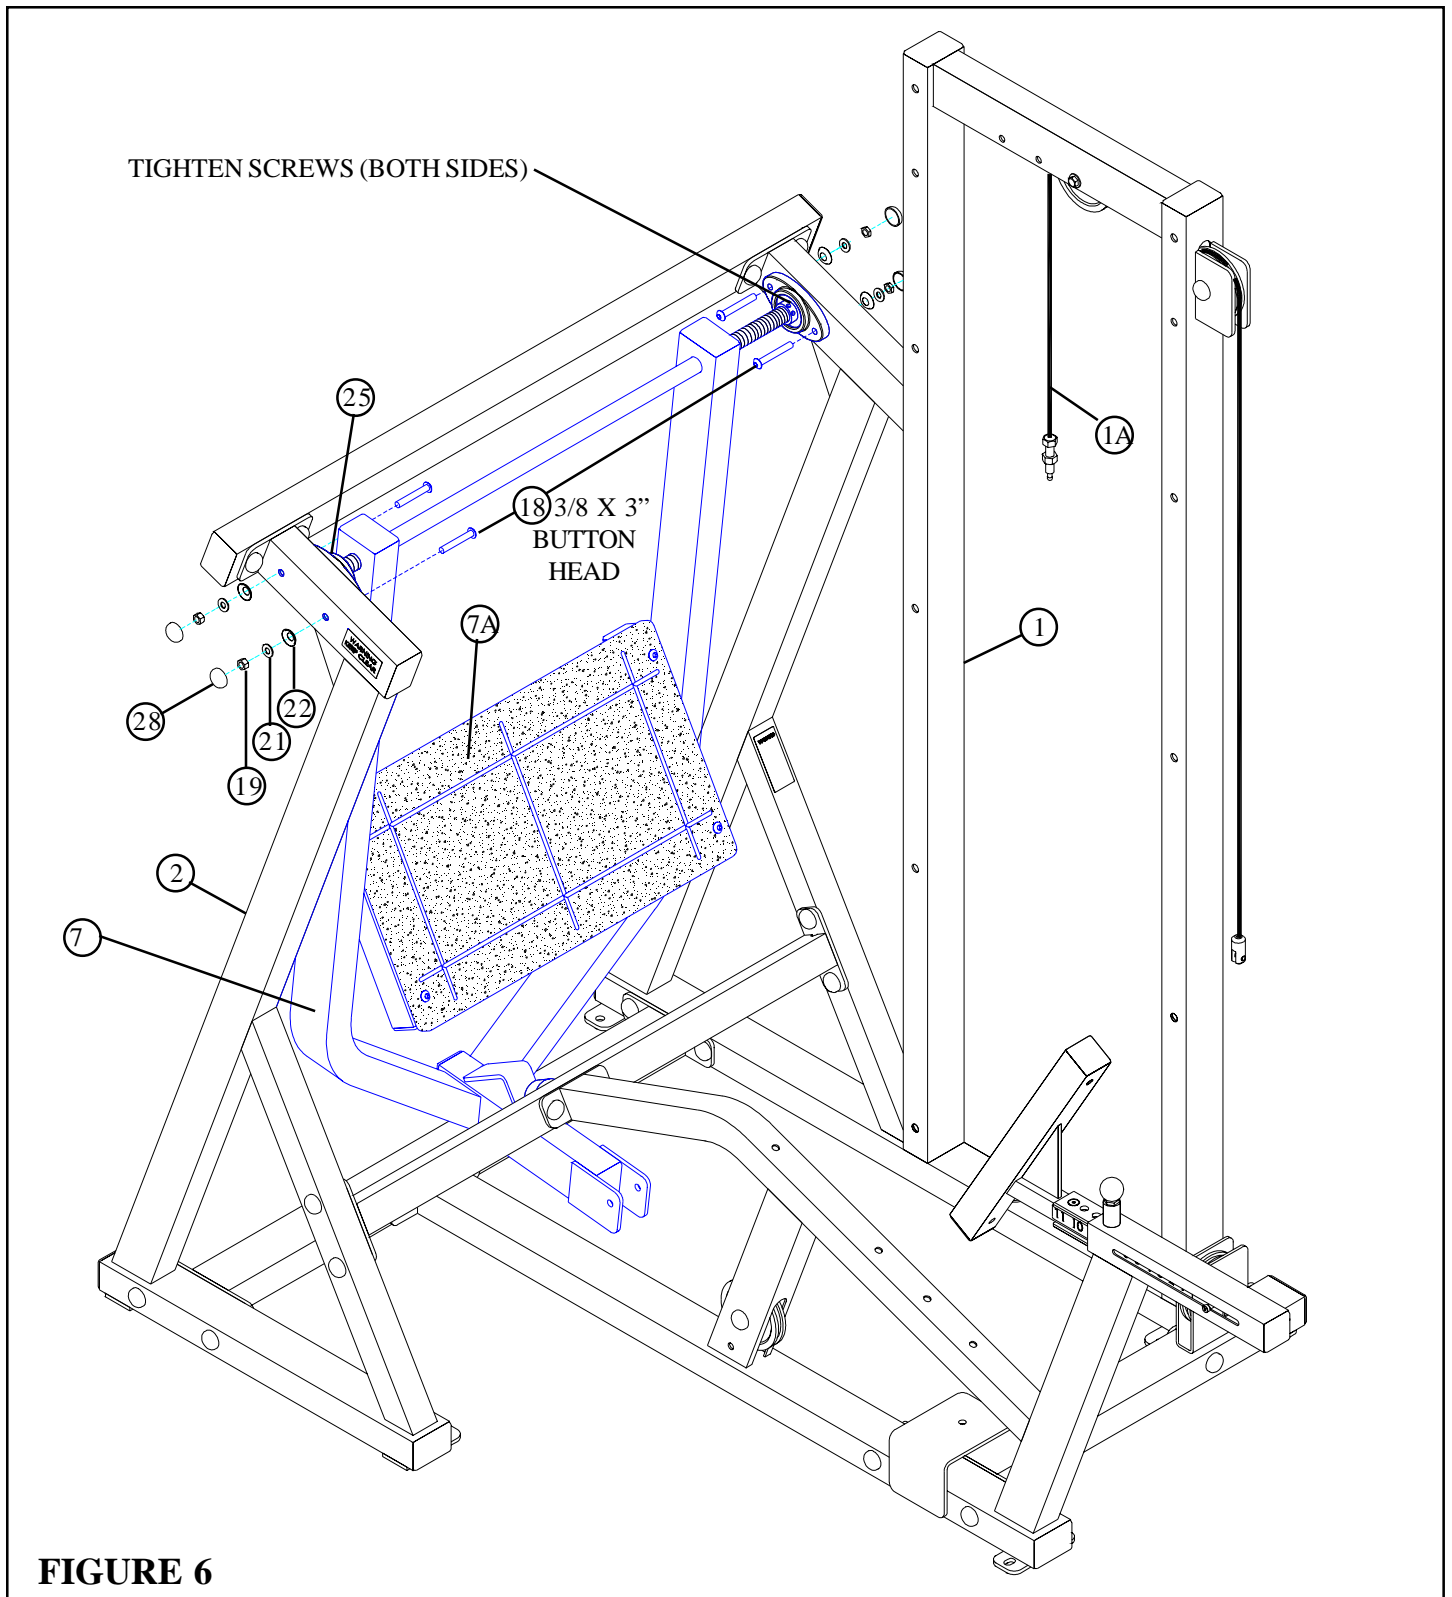

FIGURE 6
- **SECURELY** assemble the PILLOW BLOCKS (25) on the PIVOT ARM (7) to the TOWER (1) and the PIVOT ARM SUPPORT (2) using four previously inserted 3/8 X 3" BUTTON HEAD CAP SCREWS (18), four 3/8" SAE WASHERS (21), four RH WASHERS (22), four 3/8" LOW HEIGHT LOCK NUTS (19) and four RH CAPS (28) as shown in FIGURE 6
- **IMPORTANT!** When PIVOT ARM (7) is centered and level in the PILLOW BLOCKS (25), tighten the PILLOW BLOCK set screws.